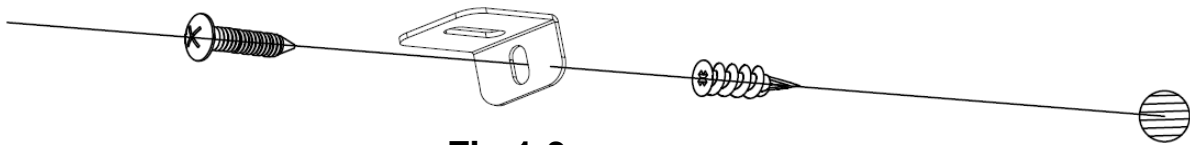

Fig 1-3
C. Install the plastic anchor **(C)** into the drywall, then install the longer screw **(B)** (supplied) into the hole of the L-bracket into the wall anchor to secure the fireplace from coming off the hooks. **(Fig 1-3)**